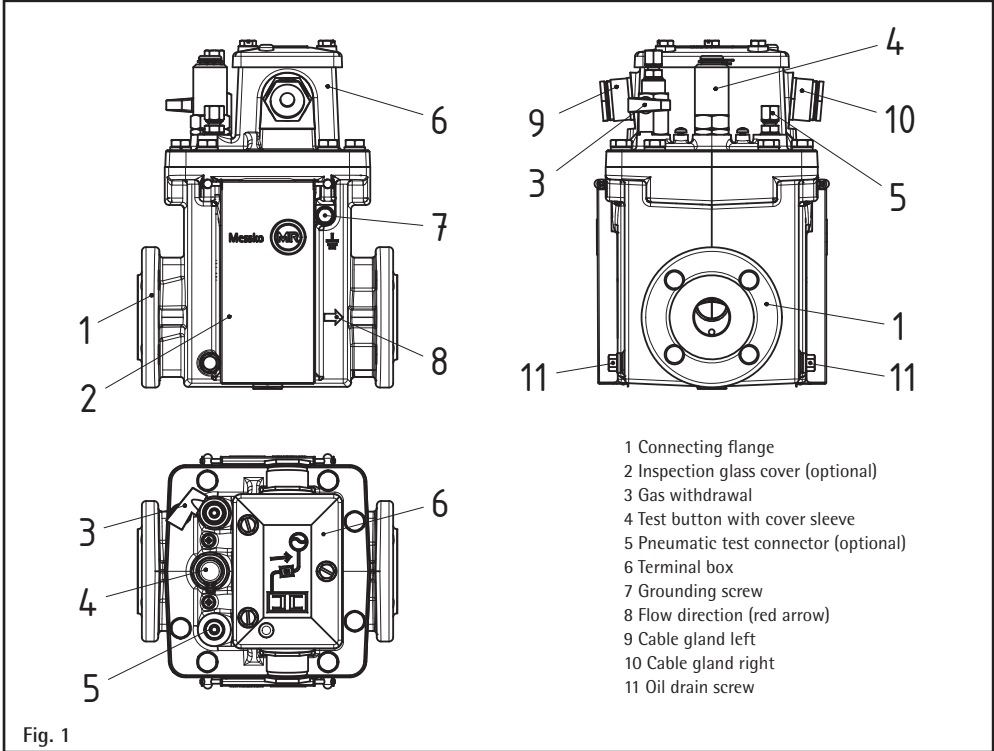

Fig. 1
Assemble the MSafe® connecting flange with an appropriate flange gasket on the pipe flange in such a way that the imprinted arrow (Fig. 1/8) is pointing in the flow direction (towards the oil conservator).
- Open gas withdrawal valve of MSafe Buchholz relay (Fig. 1/3) and allow air or gas to escape. Close gas withdrawal valve again if insulating fluid escapes.
Two oil drain screws are provided for removing all traces of the insulating fluid from the device when removing the Buchholz relay or carrying out maintenance work (Fig. 1/11). To drain off the fluid, unscrew one of the two screws using an open-end wrench (A/F 10) and collect the insulating fluid in a suitable container as it runs out.
Open the terminal box (Fig. 1/6) using the 3 fixing screws. Strip the insulation from the cable for wiring and remove approx. 7 mm of insulation from the strands. Open the desired cable gland (Fig. 1/9 or 1/10) M25x1.5 (for cables Ø 13...20 mm) (A/F30) and push the cable through. Wire up the cable according to the connection diagram printed on the inside of the cover of the terminal box (refer to Appendix, Section 9.1, Fig. 8). The connection diagram is equivalent to the error-free operating condition. The cable gland and the terminal box must then be resealed liquid-tight.
The device can be grounded with the grounding screw (Fig. 1/7) outside the MSafe® and/or with the grounding screw inside the terminal box (refer to Appendix, Fig. 8).
This test is used to simulate an accumulation of gases in the upper part of the Buchholz relay so that contacts S2 and S4 (optional) are activated. A pump is required to introduce approx. 300 ml of air into the Buchholz relay via the pneumatic test connector (Fig. 1/5).